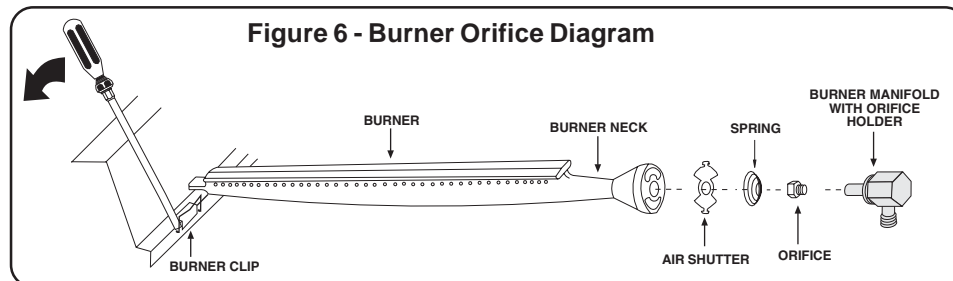

Figure 6 - Burner Orifice Diagram
b. Carefully place the oven on the frame so the Backburner gas supply tubes fit into lid stop elbows on the oven (Figure 6). The front lip of the oven may sit on the face of the Barbecue.
c. Using a flat blade screwdriver, pry the burner retaining clip from rear wall of the barbecue frame (see Figure 6). Remove the burner by; A) Pulling it to the front of the barbecue, B) Lift the far end out of the notch, C) Pull the burner away from the manifold, taking care not to lose air shutter and spring, which may become detached when the Burner is removed.
f. After checking orifice drill size or replacing the orifice, install the Air Shutter Spring and the Air Shutter over the orifice holder fitting, between the Burner and the Burner Manifold, in the order and position shown in Figure 6.